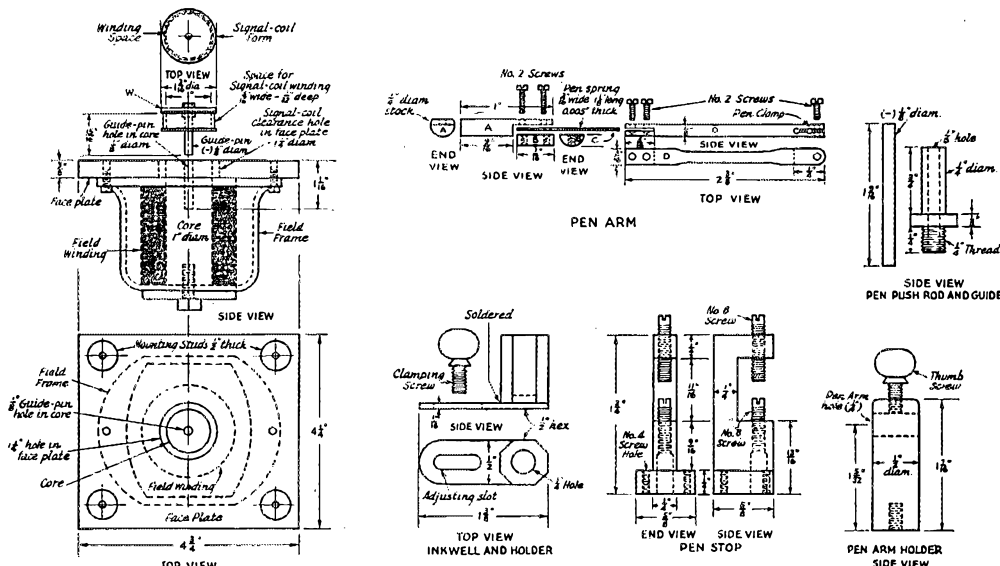
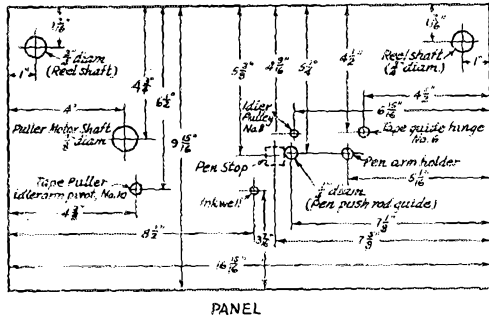

Fig. 2 — Pen and actuating mechanism. Details of assembly are given in the text.
Fig. 3 — Panel layout, showing location of important hole centers. The panel in the original is $\frac{1}{8}$ -inch steel.
the description of these first. Referring to Fig. 2, the driving mechanism is built around the “works” of an old 8-inch dynamic loudspeaker unit with a separately-excited field winding. The core must be removed, drilled and reamed accurately at the center to a depth of $1\frac{1}{6}$ inches at a diameter of $\frac{1}{8}$ inch. The walls of the hole should be polished smooth to reduce friction. The field shell is then fitted with a face plate of soft iron, $\frac{3}{8}$ -inch thick, in which a $\frac{1}{4}$ -inch hole must be cut at the center. Other dimensions will depend upon measurements of the speaker unit used. Heavy studs or spacers are placed at the four corners of the face plate to space it from the under side of the panel when mounting.
The signal-coil form is turned from a small piece of bakelite tubing. The space for the signal-coil winding (1600 turns of No. 42 enameled wire) is $\frac{5}{16}$ inch wide and $\frac{1}{32}$ inch deep. A thin bakelite washer (W) is cemented over the upper end of the form so that a $\frac{1}{8}$ -inch-diameter (actually 0.120 inch) polished aluminum guide pin can be fastened at its center with a thin nut. The shoulder inside the form may either be turned on the guide pin, or it may consist of a second locking nut, although extreme care must be used to locate the guide pin at the exact center and square with the form. Flexible leads of 'phone cord are soldered to the ends of the signal winding and the junctions are anchored firmly to the top of the form with cement. While it will be noticed that the inside diameter of the coil form and the outside diameter of the field core are shown the same (1 inch) in the drawing of Fig. 2, either the top end of the core, or the inside of the coil form must be machined down so that there is a clearance between the two of about 0.010 inch to allow free movement of the form over the end of the core. Similarly, the guide-pin hole in the center of the core and the guide pin itself must be made to fit so that the coil will move freely, but without excessive play. Care must also be used in mounting the face plate to make the core central in respect to the hole in the face plate. This unit should be mounted centrally beneath the $\frac{1}{4}$ -inch hole marked *pen push-rod guide* in the panel plan of Fig. 3.
The upper end of the signal-coil guide rod serves to push the pen push rod through the pen push-rod guide shown in the upper right-hand corner of Fig. 2, so the top end of the coil guide rod should be flattened so that the bottom end of the push rod will not have a tendency to skid. The
push rod is also made of $\frac{1}{8}$ -inch aluminum rod and it and the push-rod guide should be made to fit accurately to allow the rod to slide up and down freely, but without excessive play. A clearance of 0.005 inch is suggested. The guide mounts in the hole marked for it in Fig. 3.
The pen arm, which is pushed up and down by the push rod, consists of the four parts lettered in Fig. 2. The main part of the arm (D) is cut from $\frac{1}{8}$ -inch aluminum sheet. The slit with the lateral notch at the right-hand end forms a means of clamping the pen in position. The slit at the other end is for fastening one end of the flat spring. Both slits should be not more than $1/32$ -inch wide, so you may have to get a jeweler to do the job. The length of spring between the main part of the pen
arm and the mounting piece (A) should be $\frac{3}{8}$ inch. The mounting piece is formed from a short piece of $\frac{1}{4}$ -inch brass rod. The piece (B) is used as a clamp for the left-hand end of the spring. I made the spring from a piece of steel clock spring. This makes it necessary to punch the screw holes, since the steel is too hard to drill. If you can't manage this, spring copper, which may be drilled, makes a pretty good substitute. Part (A) is filed flat on top, as shown in the end view, so that it may be clamped firmly by the thumb setscrew of the pen-arm holder shown in the lower right-hand corner of Fig. 2.
Naturally, we must have something to limit the stroke of the pen to keep the horizontal ink lines straight on the tape. The pen stop, shown in Fig. 2, takes care of this. The one shown is cut from a solid piece of brass, although there are doubtless other ways of making it. The only requirements are that its over-all size be kept small enough to fit in the space allotted to it on the panel and that the center of the space between the adjusting screws be central with the hole in the pen-arm holder. In mounting the stop the base of the pen-rod guide may have to be filed off on one side, since these two come quite close together.
L — Signal coil, 1600 turns No. 42 enameled wire wound on form shown in Fig. 2; resistance approximately 375 ohms.
right of the headlight bulb, the construction of which is shown in Fig. 2. It consists merely of a piece of hex stock drilled out to form a small cup which is then soldered onto a length of 1/16-inch brass strip. The slot and thumbscrew allow the well to be swung out of the way when removing the pen arm. I added the extra feature of a threaded cap so that I could carry the unit around without spilling the ink.